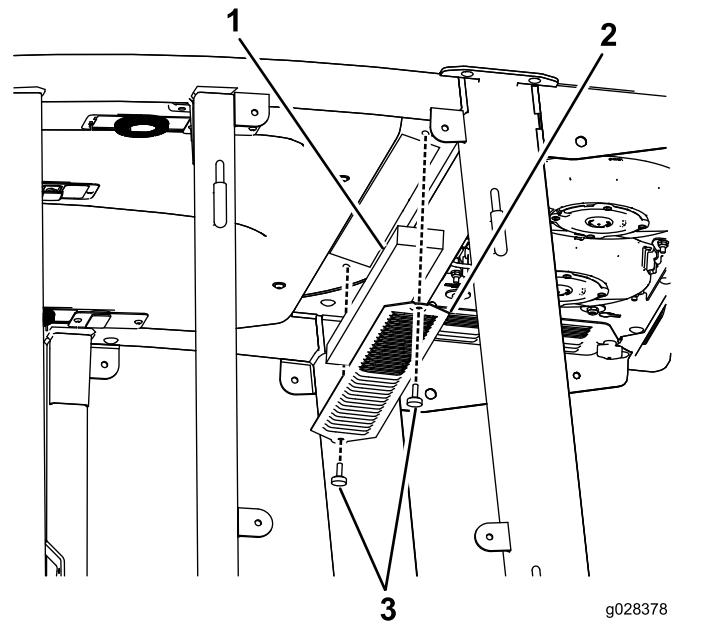
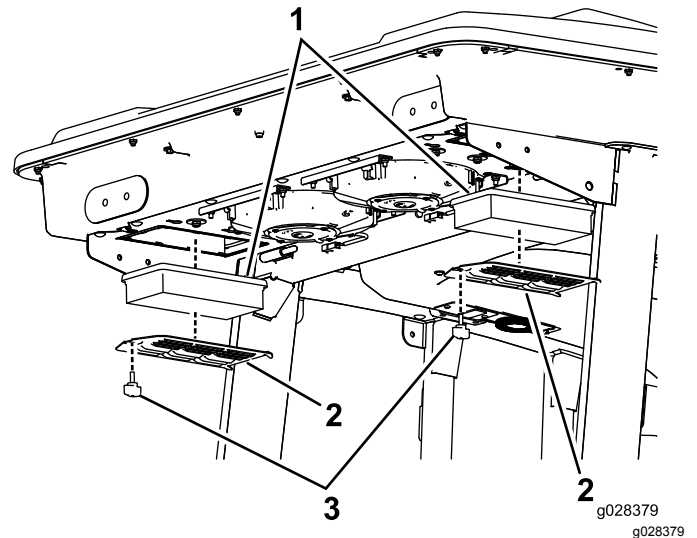

Figure 92
Figure 93
1. Remove the screws and grates from both the in-cab and rear cab air filters (Figure 92 and Figure 93).
4. Remove the air filters (see Figure 93).
6. Install the air filters, screen, and fan assembly (Figure 93, Figure 95, and Figure 96).